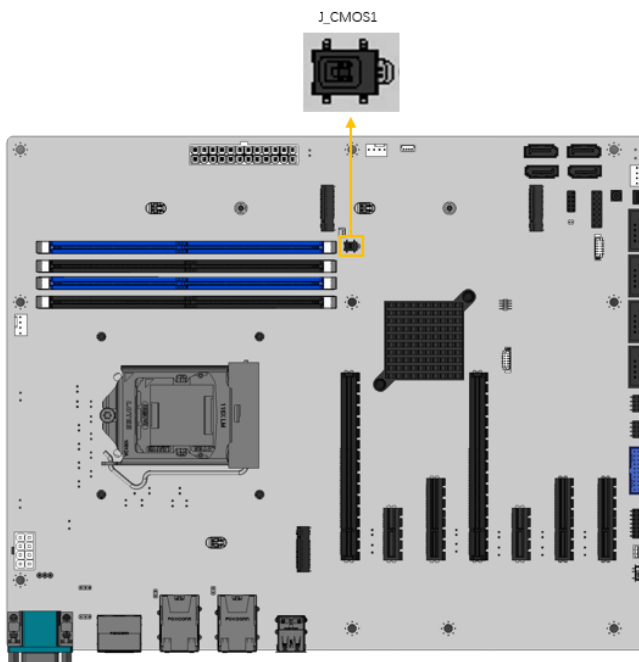

Figure 3-9: Clear CMOS Jumper Location
- CN Location:** See **Figure 3-9**